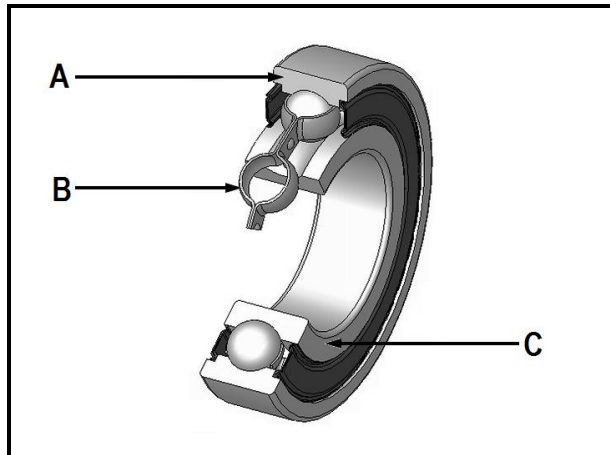

FIGURE 1
FIGURE 1 shows a diagram of a bearing.
- 4.1 Name the bearing shown in FIGURE 1. (1)